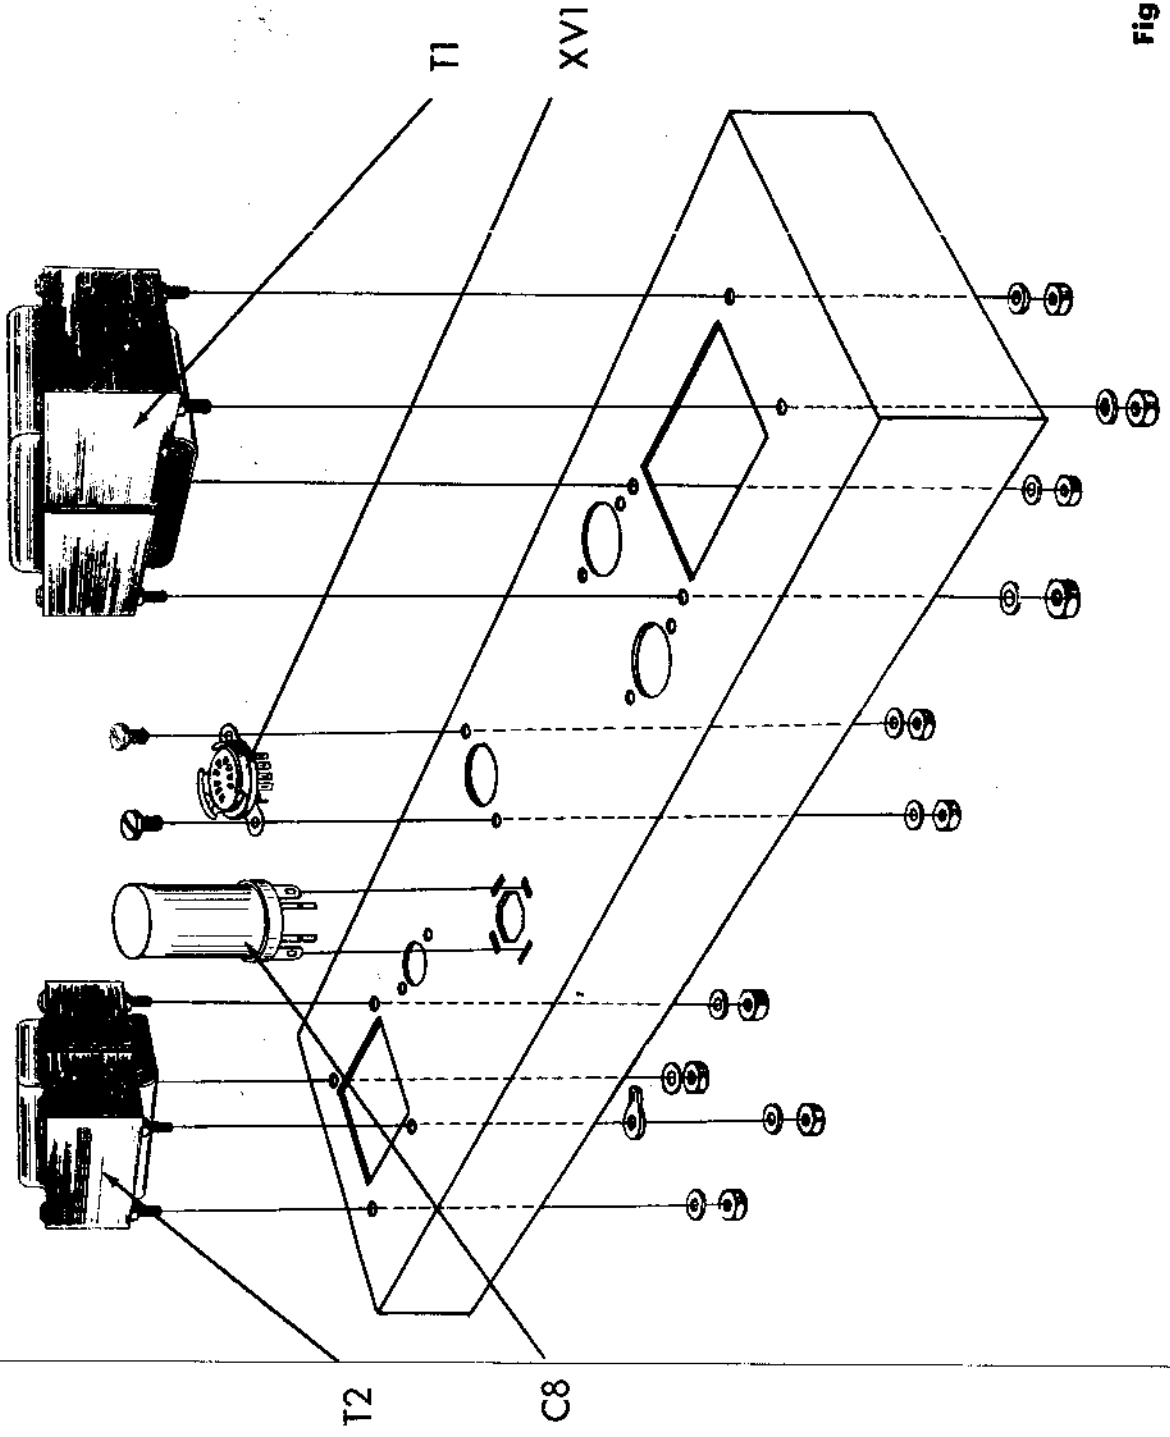
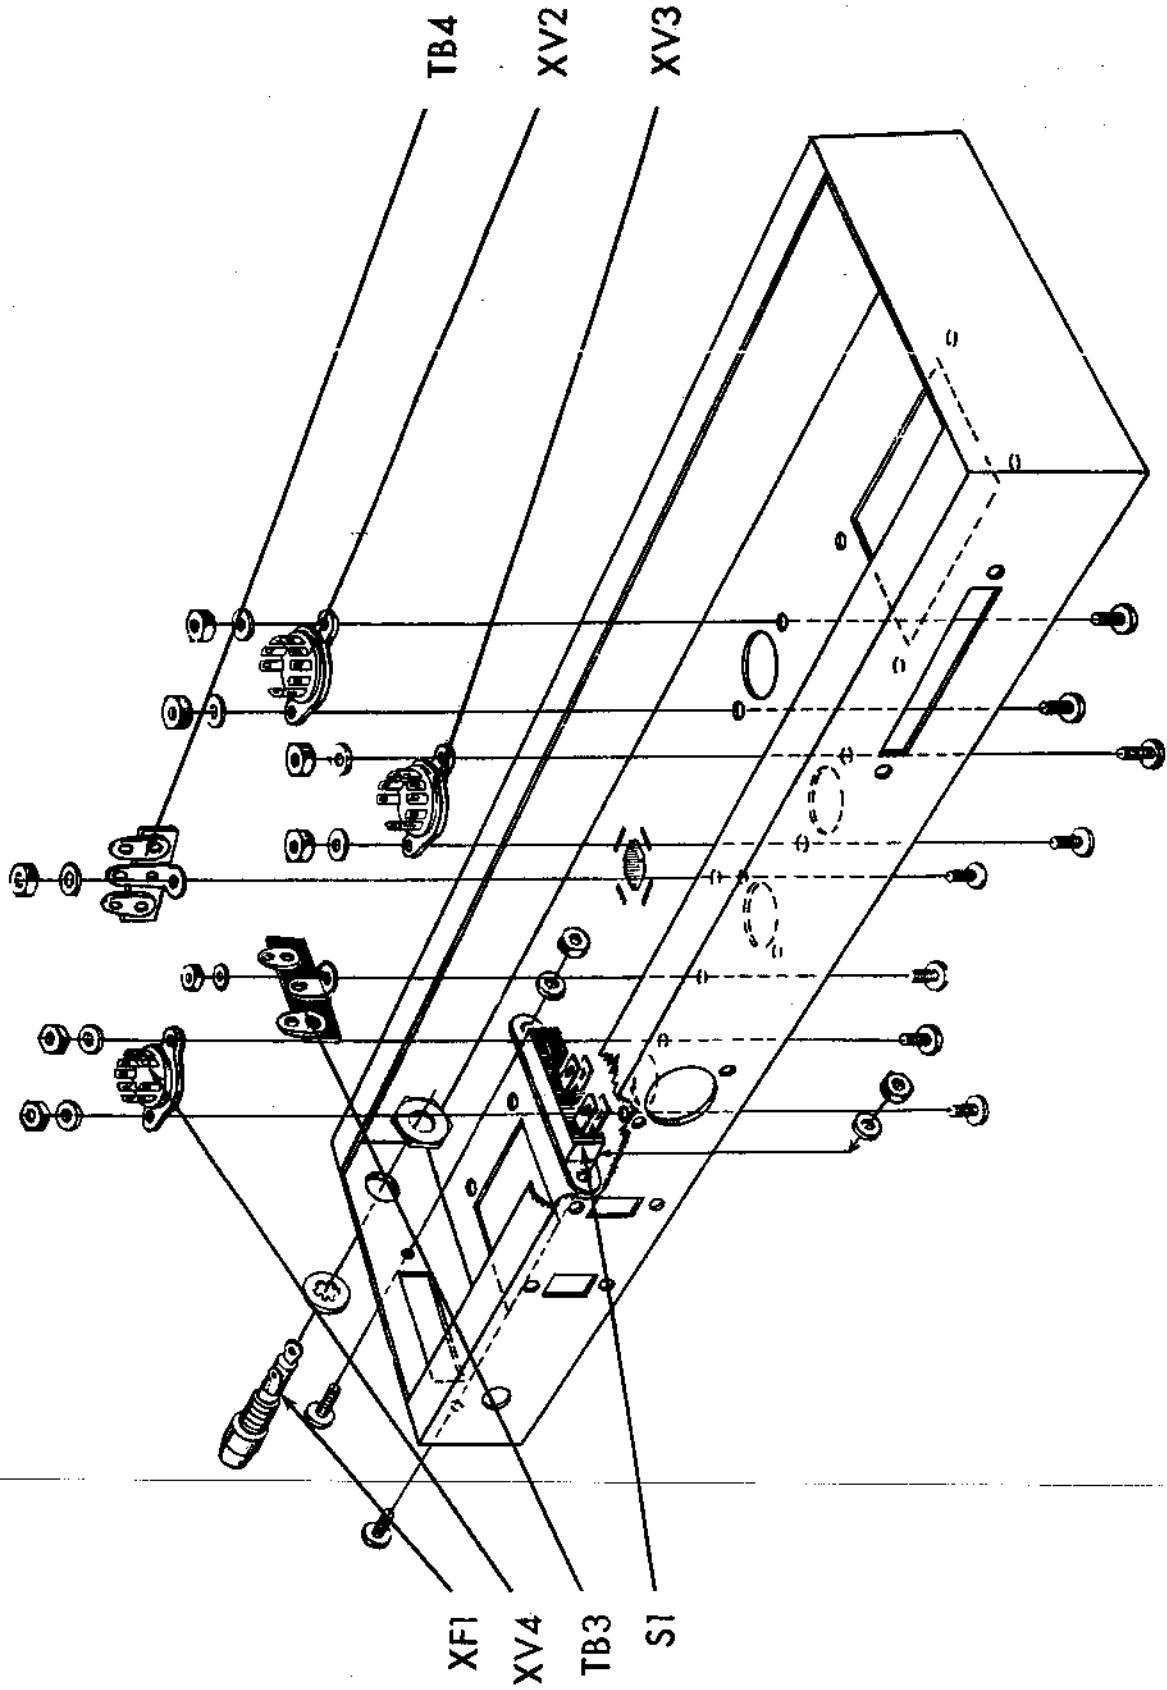
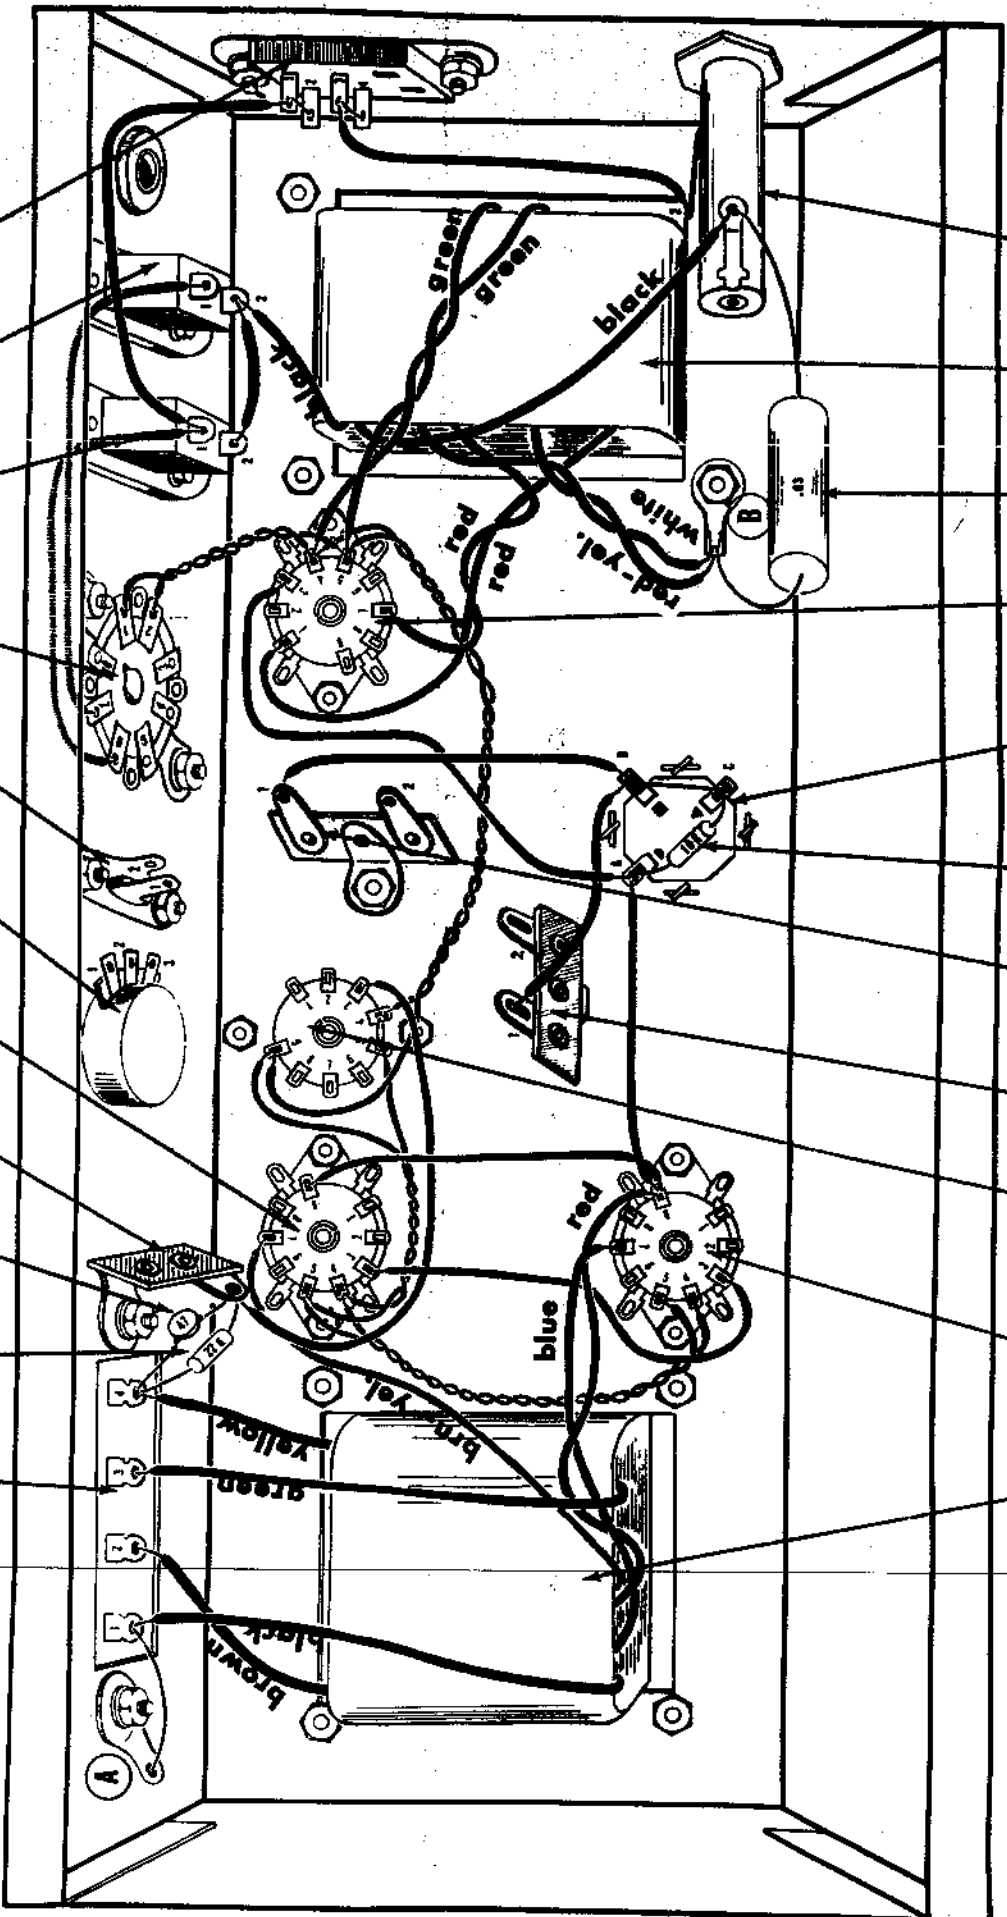

Fig. 1
Fig. 3
Fig. 4
1. () Fig. 1. On the power transformer T2, 30019, cut both red leads to 3", the red-yellow and white leads to $2\ 1/2$ " and the two green leads to $3\ 1/2$ ". Do not cut the remaining leads. Mount the power transformer as shown, with the green leads closest to the side of the chassis (Fig. 4 & 5). Use four #8 lockwashers and four #8-32 hex nuts. Under one of the lockwashers, mount a #8 ground lug as shown in Fig. 4.
2. () Fig. 1. On the output transformer T1, 32005, cut the green lead to $3\ 1/2$ ", the yellow lead to $1\ 1/2$ " and the blue lead to $4\ 1/2$ ". Do not cut the remaining leads. Mount the output transformer as shown with the brown and the yellow leads closest to the rectangular hole in the side of the chassis (Fig. 4 & 5). Use four #8 lockwashers and four #8-32 hex nuts.
3. () Fig. 1. Mount the 9 pin miniature tube socket with shield support, XV1, as shown. Note direction in Fig. 4. Use two #4-40 screws, two #4 lockwashers and two #4-40 hex nuts.
4. () Fig. 1. Mount electrolytic can capacitor, C8, as shown. Note half-moon, square and triangle near lugs to determine direction of mounting (Fig. 4). Insert the mounting tabs into the slots in the chassis and twist the tabs somewhat less than a quarter turn. DO NOT twist the tabs excessively or they will shear off. Solder the tab without a hole to the chassis at its slot.
3. () Fig. 2. Mount the input jack J1, as shown (Fig. 4). Use two #6-32 screws, two #6 lockwashers and two #6-32 hex nuts.
4. () Fig. 2. Mount the octal socket, J4, as shown. Note direction of key in Fig. 4. Use two #6-32 screws, two #6 lockwashers and two #6 hex nuts.
1. () Fig. 3. On the side of the chassis mount the slide switch S1, as shown. (Fig. 4). Use two #4-40 screws, two #4 lockwashers and two #4 hex nuts.
2. () Fig. 3. Mount fuseholder XF1 as shown. Use large rubber washer outside the chassis. Tighten to chassis with hex nut supplied. Do not tighten too much or holder will crack.
3. () Fig. 3. Mount the tube sockets XV2, XV3, and XV4 as shown (Fig. 4). Use two #4-40 screws, two #4 lockwashers and two #4-40 hex nuts on each.
4. () Fig. 3. Mount the two post terminal board TB3, and the two post terminal board, TB4 as shown. Use one #6-32 screw, one #6 lockwasher and one #6-32 hex nut on each.
1. (✓) Fig. 4. Connect a 1" piece of bare wire from TB1-1 (C) to ground lug "A" (S1).
2. (✓) Fig. 4. From output transformer T1, connect the black lead to TB1-1 (S2), the brown lead to TB1-2 (S1), the yellow lead to TB1-4 (C) and the brown-yellow lead to XV3-7 (S1). Twist the blue and red leads together. Connect the red lead to XV2-9 (C) and the blue lead to XV2-7 (S1). Connect the green lead to TB1-3 (S1).
3. (✓) Fig. 4. Cut both leads on a 22KΩ (red, red, orange, gold) 5% resistor, R11, to 1/2". Connect from TB1-4 (C) to TB2 (C).
4. (✓) Fig. 4. Cut both leads on a 47 mfd disc capacitor, C7, to 3/4". Connect from TB1-4 (S3) to TB2 (C).
5. (✓) Fig. 4. Connect one end of a 3" piece of yellow wire to XV2-4 (S1) and one end of a 3" piece of brown wire to XV2-5 (S1). Twist the two leads together and run along the chassis as shown. Connect the other end of the yellow wire to XV3-4 (C) and the other end of the brown wire to XV3-5 (C).
6. (✓) Fig. 4. Connect one end of a 3" piece of yellow wire to XV3-4 (S2) and one end of a 3 1/2" piece of brown wire to XV3-5 (S2). Twist the two leads together and run along the chassis as shown. Connect the other end of the brown wire to XV1-9 (C) and the other end of the yellow wire to XV1-5 (C).
7. (✓) Fig. 4. Connect a 1/2" piece of bare wire from XV1-5 (S2) to XV1-4 (C).
8. (✓) Fig. 4. Connect one end of a 5 1/2" piece of brown wire to XV1-9 (S2) and one end of a 5" piece of yellow wire to XV1-4 (S2). Twist the two leads together and run along the chassis as shown. Connect the other end of the brown wire to XV4-5 (C) and the other end of the yellow wire to XV4-4 (C).
9. (✓) Fig. 4. From the power transformer T2, twist the two green leads together. Connect one lead to XV4-4 (C) and the second green lead to XV4-5 (C).
10. (✓) Fig. 4. Connect one end of a 2" piece of brown wire to XV4-5 (S3) and one end of a 2" piece of yellow wire to XV4-4 (S3). Twist the leads together and connect to the other end of the brown wire to J4-2 (S1) and the other end of the yellow wire to J4-1 (S1).
11. (✓) Fig. 4. From the power transformer T2, twist the two red leads together. Connect the shorter red lead to XV4-7 (S1) and the longer red lead to XV4-1 (S1).
12. (✓) Fig. 4. Connect a 1 1/2" piece of black wire from J2-2 (S1) to J3-2 (C).
13. (✓) Fig. 4. Connect a 3/4" piece of bare wire from S1-1 (C) to S1-2 (S1).
14. (✓) Fig. 4. Connect a 3/4" piece of bare wire from S1-3 (C) to S1-4 (S1).
15. (✓) Fig. 4. Connect a 2" piece of black wire from S1-3 (S2) to XF1-2 (S1).
16. (✓) Fig. 4. Connect a 3 1/2" piece of black wire from J2-1 (C) to J4-6 (S1).
17. (✓) Fig. 4. Connect a 5" piece of black wire from J3-1 (C) to J4-7 (S1).
18. (✓) Fig. 4. Connect a 4" piece of black wire from S1-1 (S2) to J2-1 (S2).
19. (✓) Fig. 4. From the power transformer T2, twist the red-yellow and white leads together. Connect both leads to ground lug "B" (C).
20. (✓) Fig. 4. From the power transformer T2, connect one black lead to J3-2 (C) and the other black lead to XF1-1 (C).